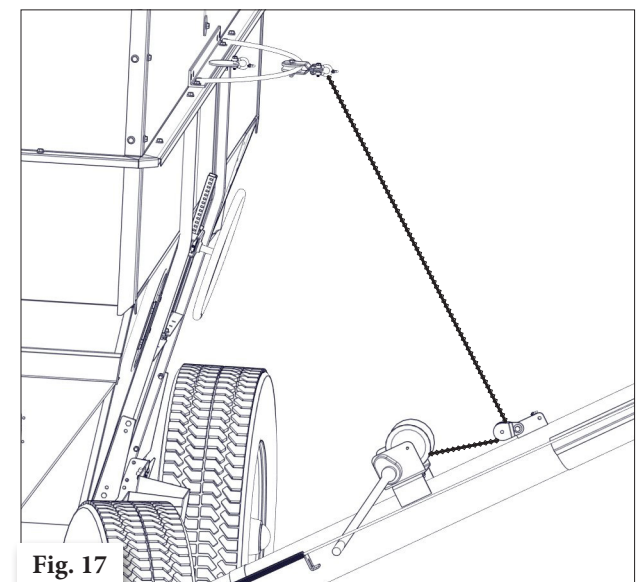

Fig. 17
- Route the cable through the pulley on the auger, then up towards the Curved Rod Weldment and then through the shackle. Secure cable to the shackle using a 3/16" cable clamp Fig 17.